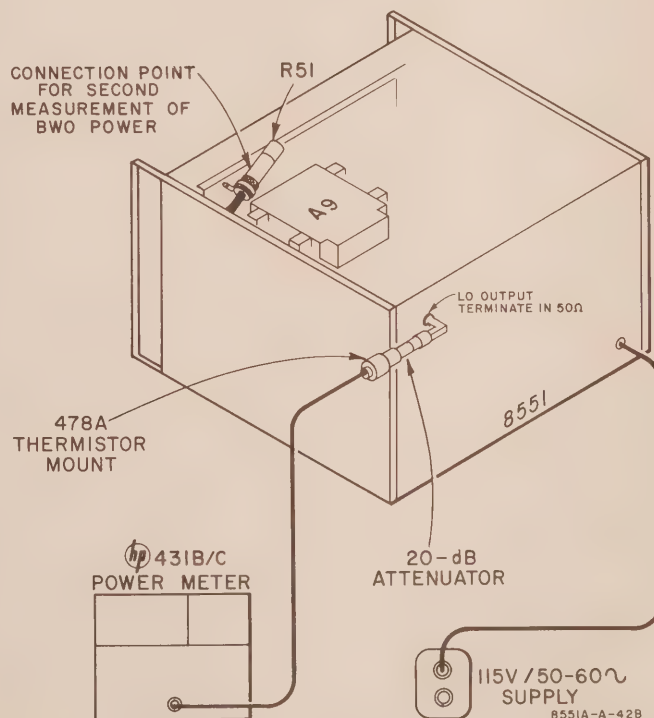

Figure 5-3. Setup for Measuring BWO Power at 8551 Rear Panel Output
- a. Connect a 20-dB RF attenuator to LO OUTPUT-TERMINATE IN 50 OHM connector on 8551 rear panel. Connect power meter and thermistor mount to attenuator (see Figure 5-3).